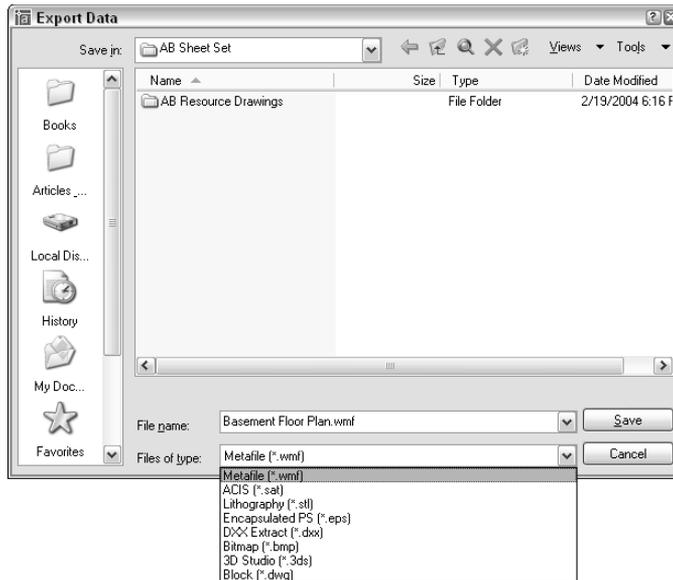

Figure 27-2: The Export Data dialog box.
1. Choose File ⇨ Export to open the Export Data dialog box, shown in Figure 27-2.